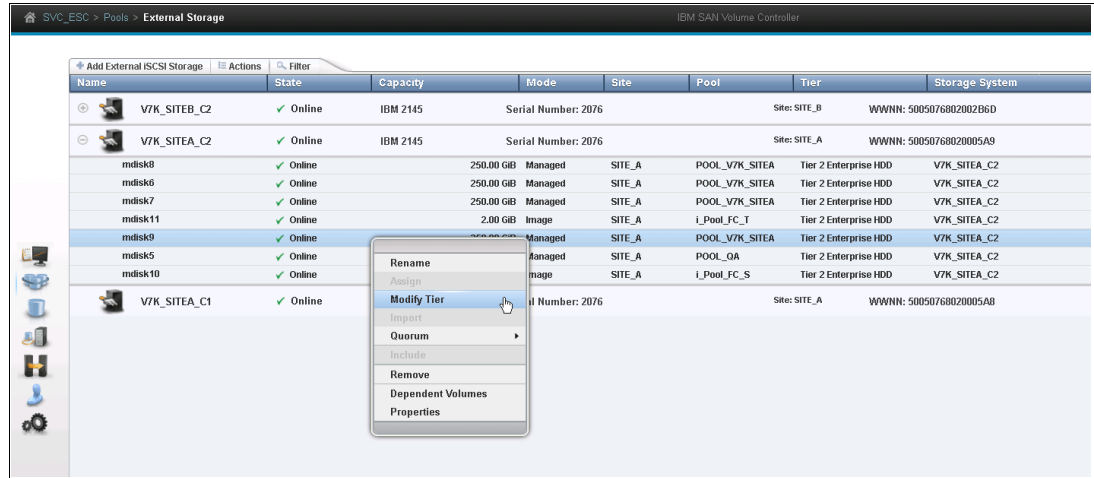

Figure 7-4 Change the MDisk tier
2. Then, right-click the wanted MDisk and select **Modify Tier** (Figure 7-4).